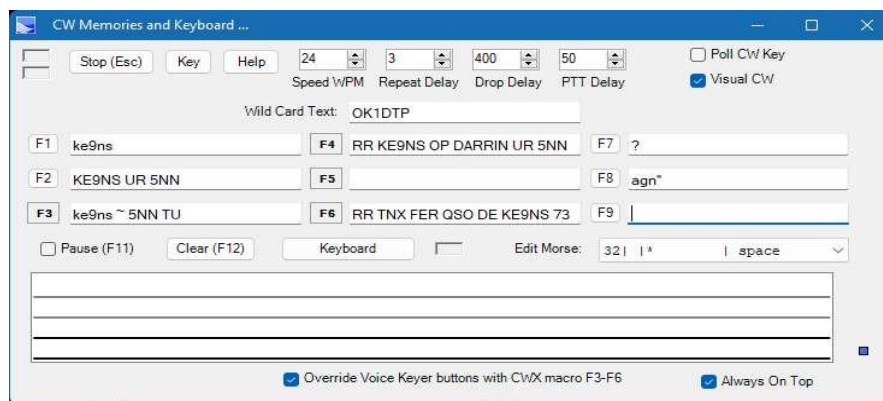

Figure 40: CWX Form
If you wish to send CW automatically, click on **CWX (36)** on the Front Console menu to open the CWX Form shown Figure 40 below. (Refer to the CWX Form section on page 113 for more detail on how to use this form).